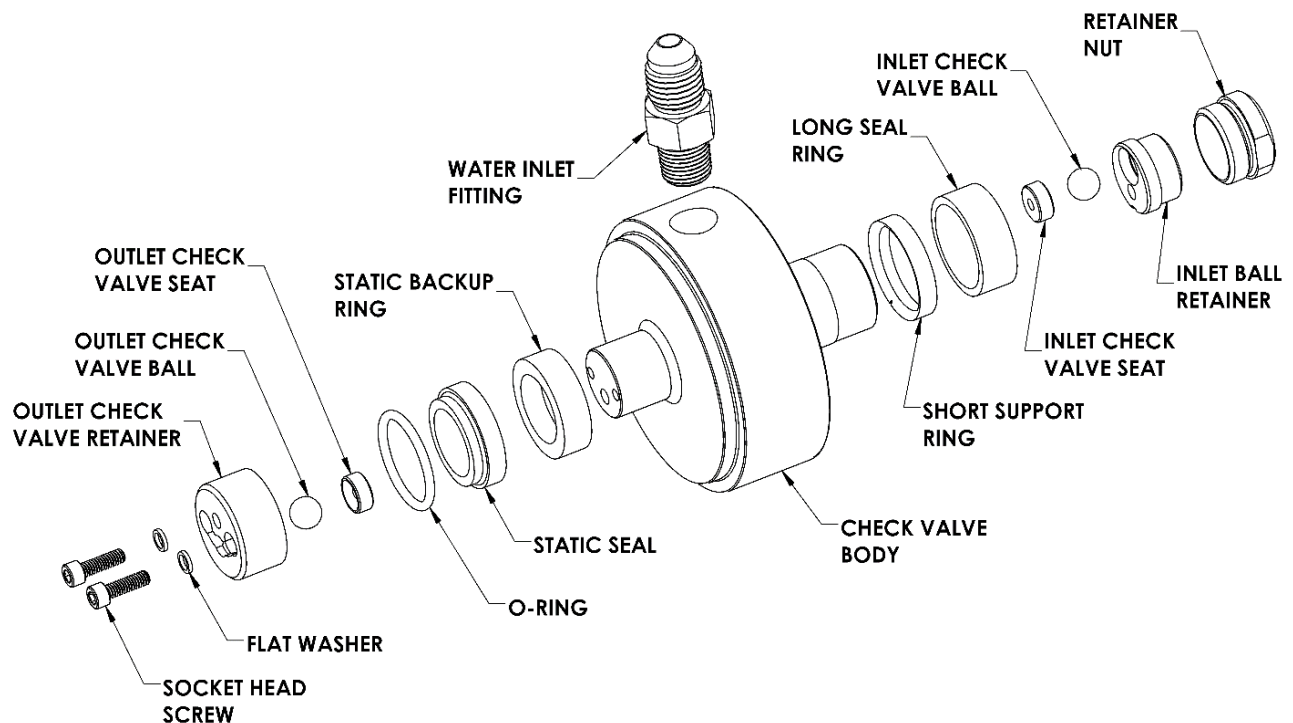

Figure 23 Check Valve Assembly Components
1. **Apply** a light coat of Lubriplate to the interior of the holes on the pressure manifold (see **Figure 1** on page 8) and the check valve body (see **Figure 23** on page 27) outlet side O-ring and static seal.